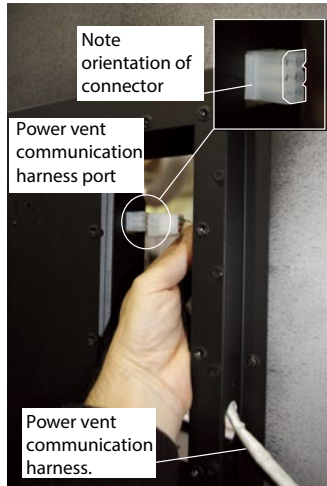

Figure 12d. Locate Power vent connections.
Step 5. Route the Power Vent Communication conduit into the cover as shown, and connect to the communication Port, **Figure 12d**.